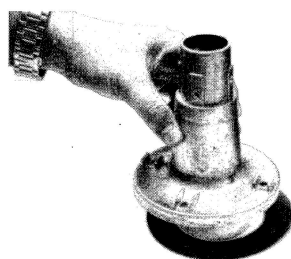
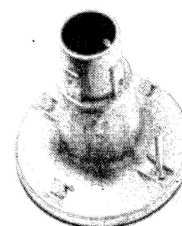

FIG 4.
FIG 5.
STEP 3: Center the base mount above the big rubber ring hole-to-hole, and place 4 hexagon bolts through the 4 holes drilled in step 2 (Refer to FIG 4. & FIG 5.).
STEP 4: Put the small rubber ring on the top of the base mount, and then the antenna. Make sure the cable with F connector from the antenna go through the base mount. Fix the antenna by tightening 2 hexagon bolts cross-over. (Refer to FIG 5.)